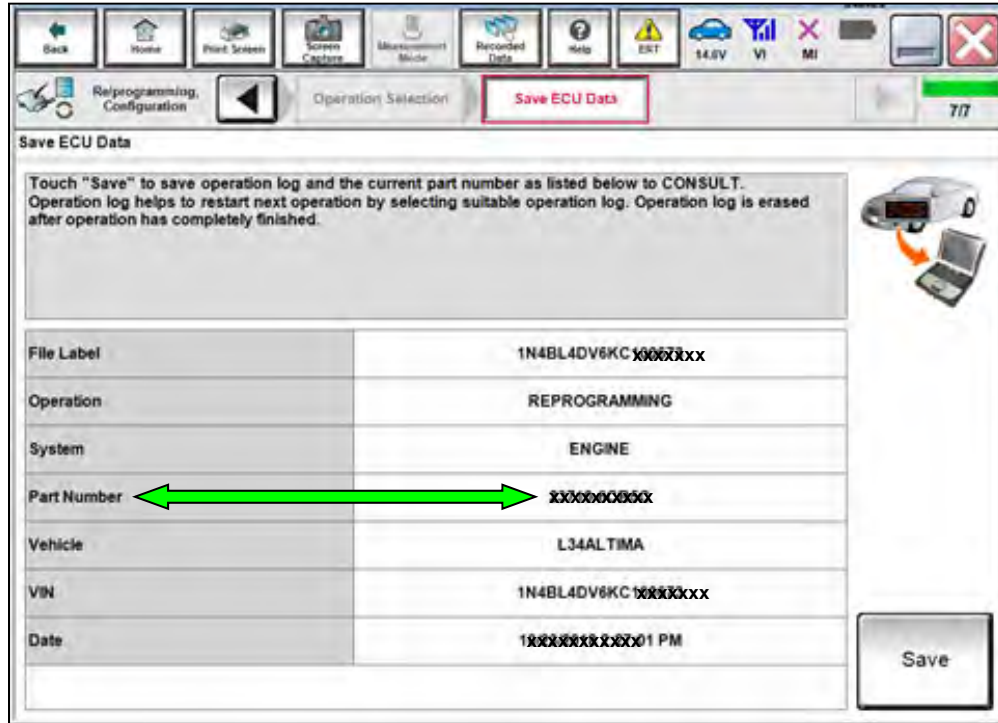

Figure 8
16. When the screen in Figure 8 displays, confirm this bulletin applies as follows: